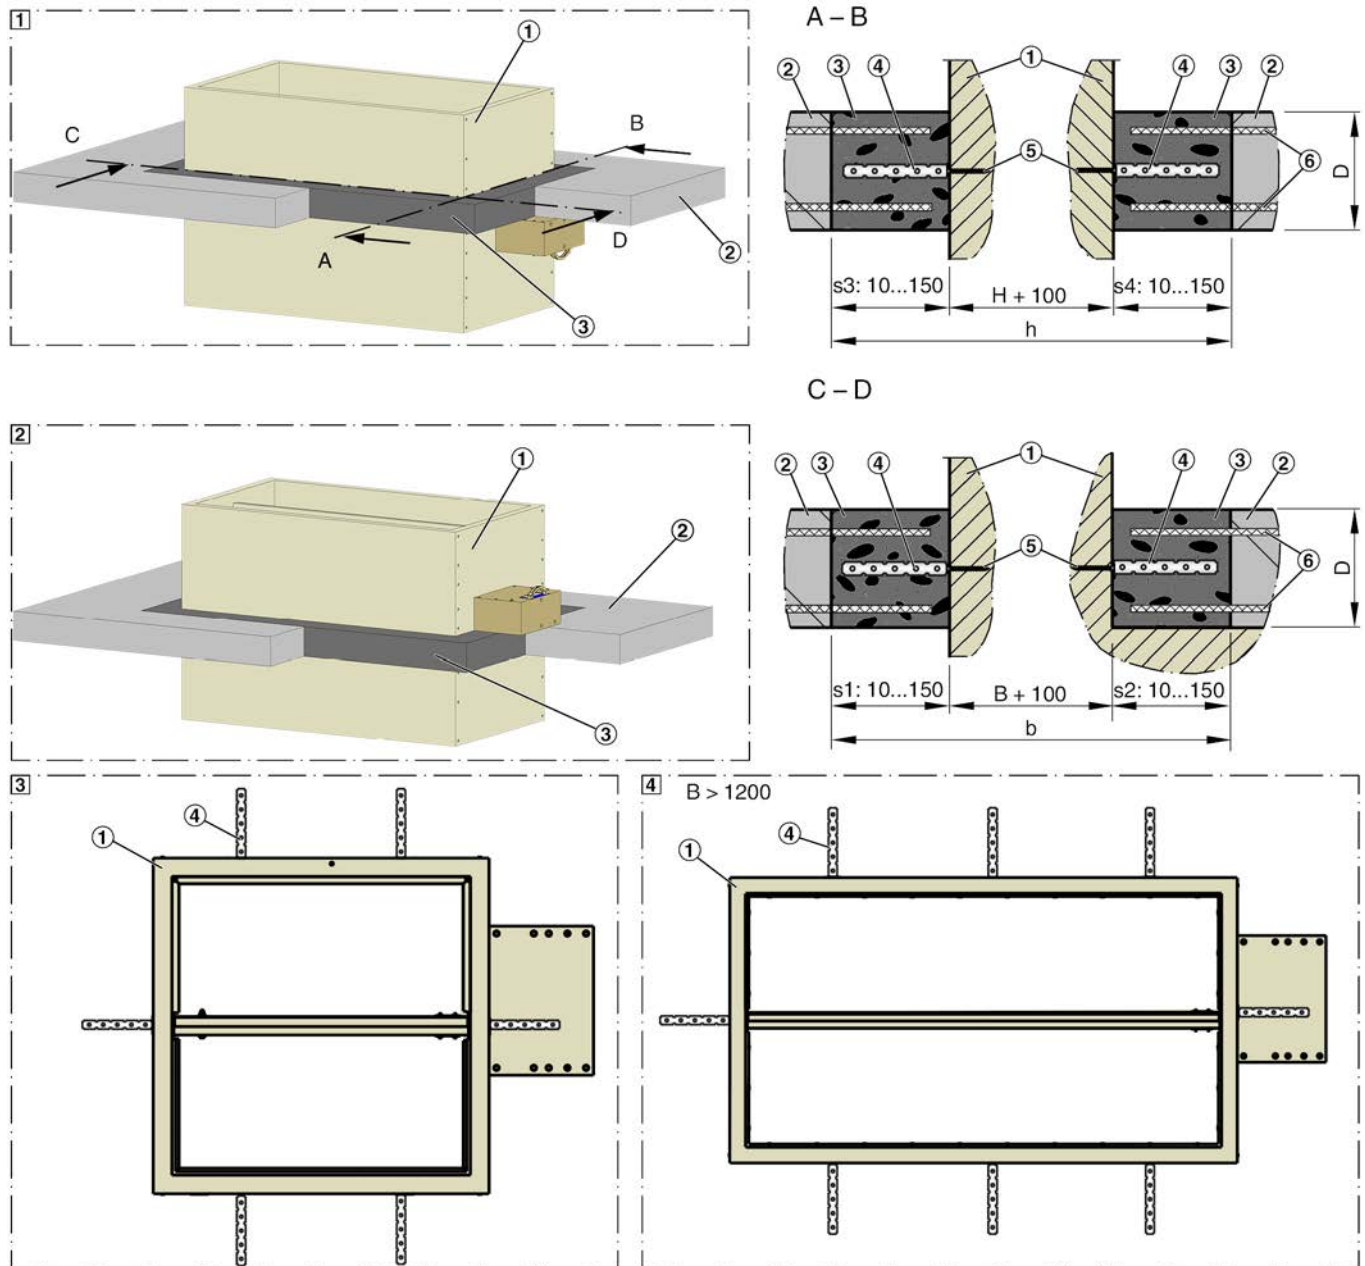

Fig. 15: Mortar-based installation in solid ceiling slab, classification index: h_{ow}
- ▶ Create an installation opening according to Fig. 15 .